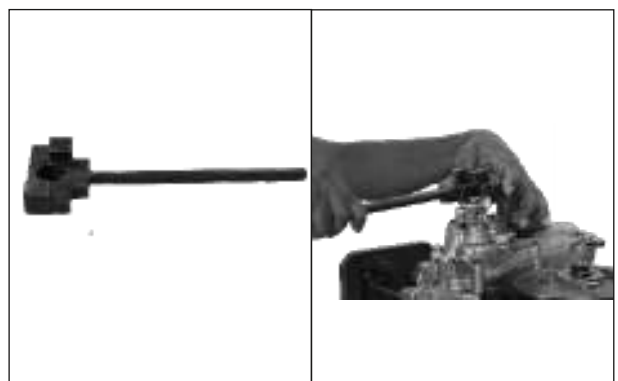

Fig. 1.10
- Mark the long leg and dog driven with the cover differential mark Engage Dog driven with shaft, Hand starter about 5 mm. Rotate clockwise, still it crosses Damper hand starter. Push it inside till dog driven hole matches with the starter. (Fig. 1.10)